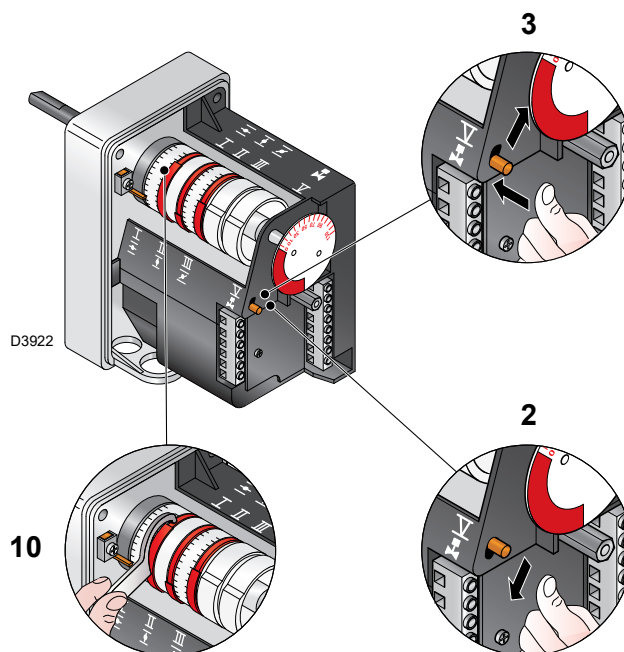

Fig. 28
- If it is necessary to reduce it, slightly reduce the angle of cam III (Fig. 28) with small, regular movements (i.e. bring it from an angle of 65° to 63° - 61°....).
- If it is necessary to increase it, lightly press the “increase output” button 2)(Fig. 24) (open the gas butterfly valve by 10-15°) and increase the angle of cam III (Fig. 28) with small, regular movements (i.e. bring it from an angle of 65° to 67° - 69°....).
For any necessary adjustment of cam III, especially for small movements, use the specific key 10)(Fig. 28).
Key (Fig. 28)